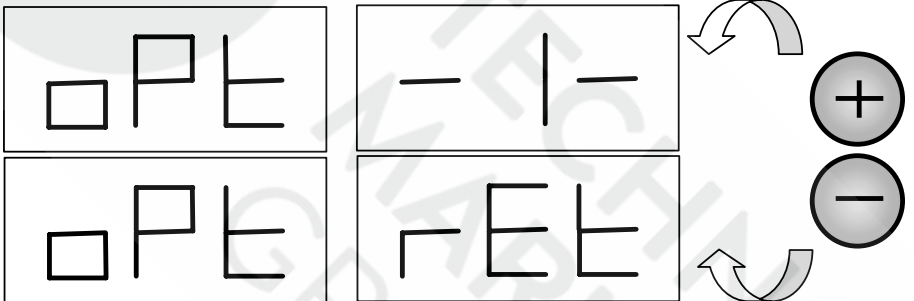

Fig. F5.1 Access to the Optimisation program
1. Press [F+P4] . The display will show the options shown in figure F5.1. Press [P4]  or [P5]  and choose the option Opt-1 to continue, or the option Opt-RET to return to the operating program. Press [F+P4]  to confirm the chosen option;